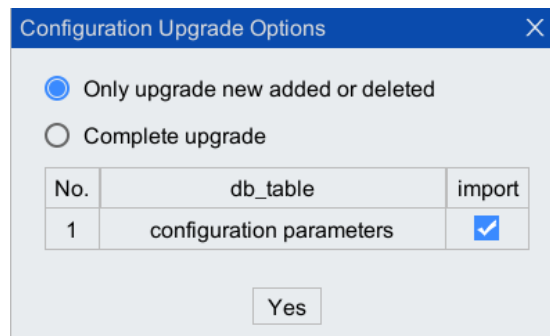

Figure 8-43 "Upgrade Database Option" interface
Step3.Pop up "Upgrade the Database Option" interface shown in Figure 8-43, configure the options according to the needs (for details, please refer to Table 8-9. You can only select one of the first 2 items in the table, and the last three items can be selected in multiples), and then click <Yes> button.